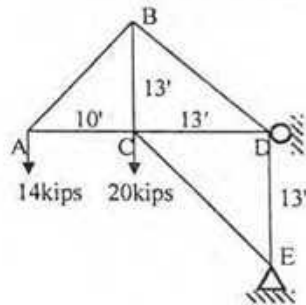

Fig. 7
Q8. Determine the minimum cross-sectional areas of members BC, BD and CE for the truss shown in Fig. 7 if the stresses are not to exceed 20 ksi in tension or 14 ksi in compression. (10)